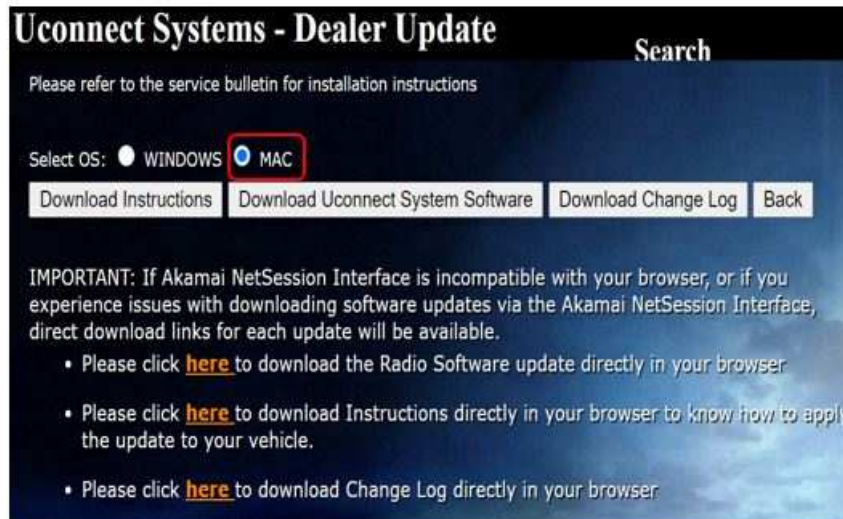

Fig. 3
6. Download the software update file to your local PC's desktop. Make sure to select the “MAC” radial button for all downloads (Fig. 3) .